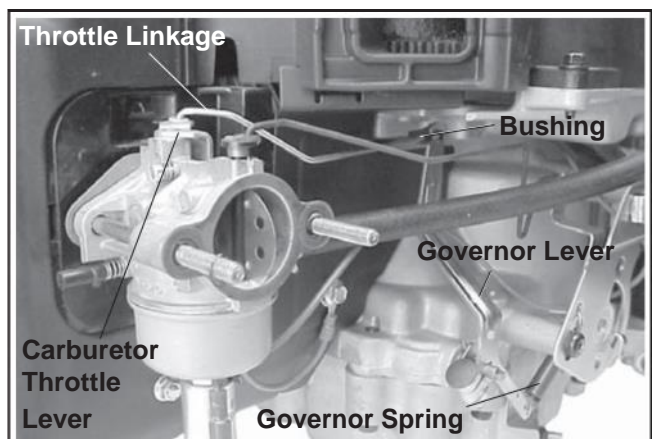

Figure 9-8. Removing Throttle Linkage.
1. Remove the throttle linkage from the bushing in the governor lever. See Figure 9-8. Reattach bushing to throttle linkage.